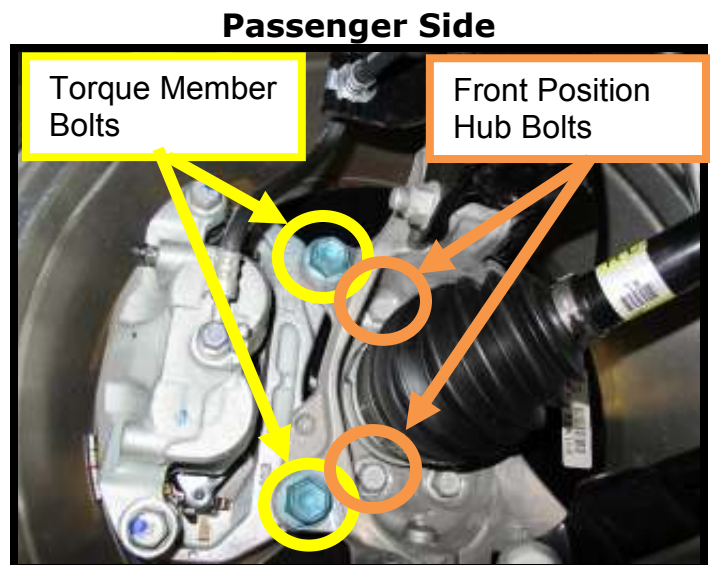

Figure 4
7. On the passenger side knuckle, use a torque wrench to torque the following bolts (Figure 4):